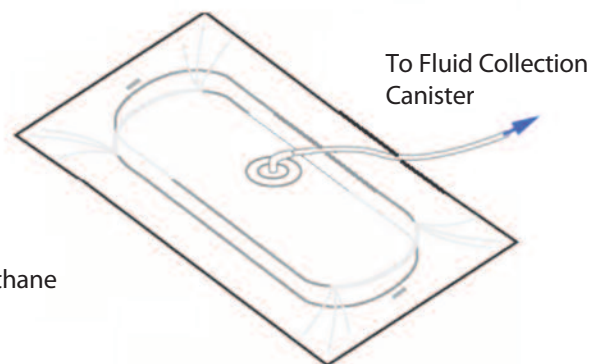

Figure 2
11. Peel the backing from one of the SpeedConnect™ flanges and place it above the hole made in Step 10. Using the tips of the fingers, press around the top of the SpeedConnect to ensure a good seal to the dressing (see Fig. 2).